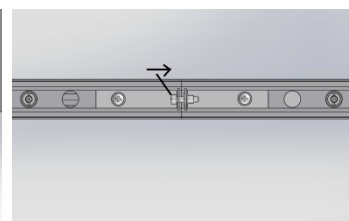

Fig.8
- 11) Join the luminaires together (Fig. 8), twist a screw no.5 in, regulate the length of the suspension.